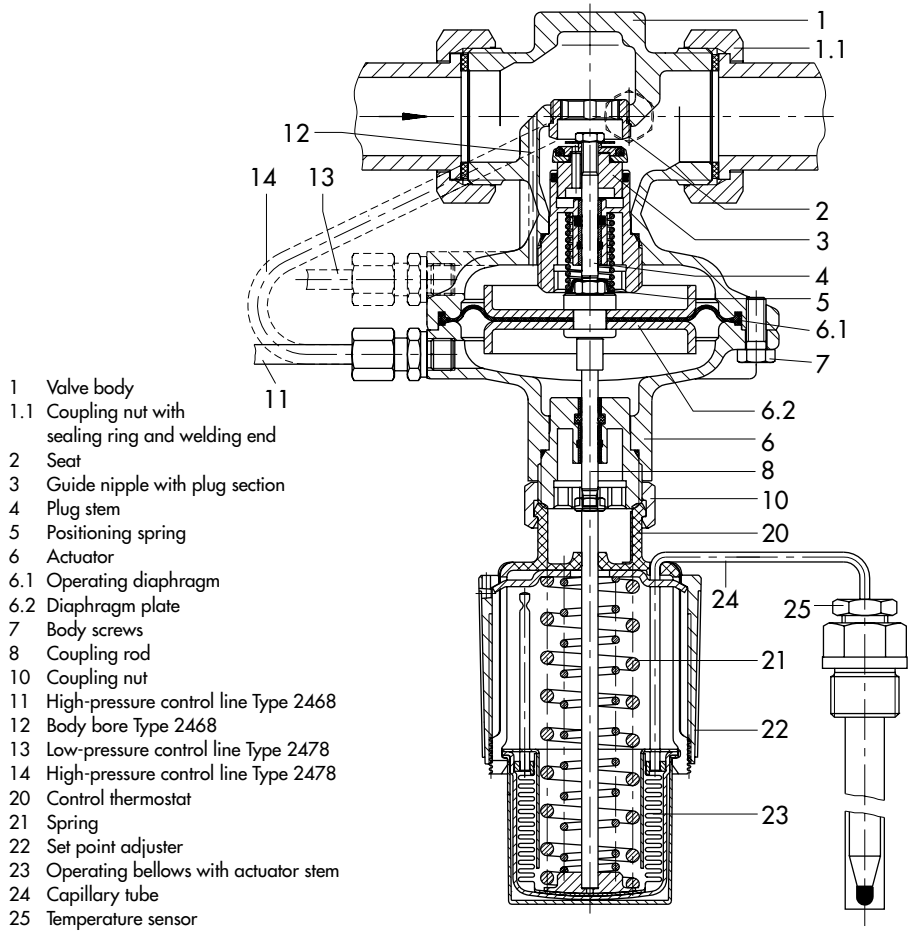

Fig. 2 · Sectional drawing
7. Reassemble regulator in reverse order, observing the tightening torques specified in the table in Fig. 2.
1. Unscrew coupling nut (10) and remove thermostat from the regulator.
3. Unscrew body screws (7). Remove lower diaphragm case including diaphragm and diaphragm plate.
5. Reassemble regulator in reverse order, observing the tightening torques specified in the table in Fig. 2.